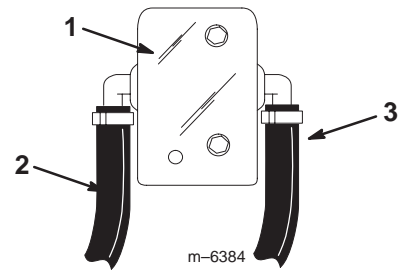

Figure 15
12. Connect the end of a short 1/2 inch hose to the open fitting on the S53 tee that you installed into the agitation hose and route it to the rear 1/2 inch barb on the small ball valve assembly (Fig. 15).
15. Connect the end of a short 1/2 inch hose to the open fitting on the S53 tee that you installed into the by-pass hose and route it to the front 1/2 inch barb on the small ball valve assembly (Fig. 15).